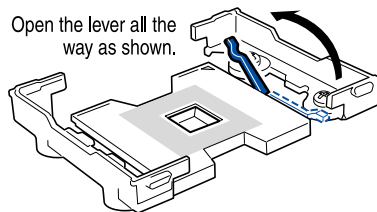

FIGURE 5-11 Opening the Socket Lever
2. **As shown in Figure 5-11, open the socket lever.**